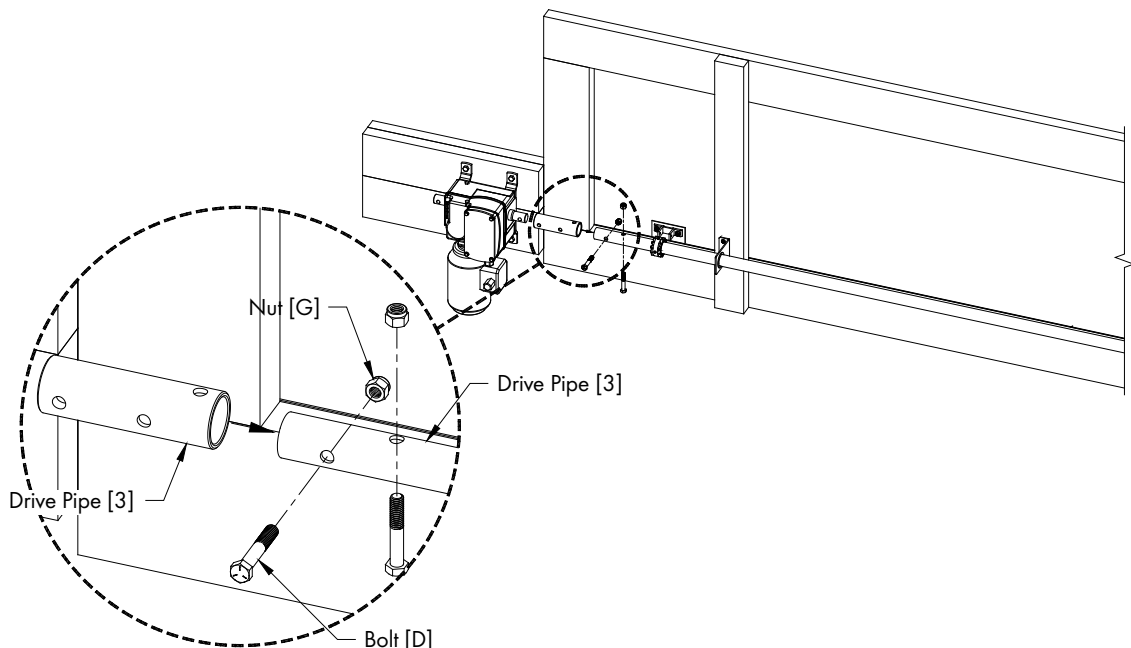

Figure 35
Slide the Straight Coupling [17] over the end of the pipe near the Actuator and secure in place using (2) Bolts [D] and Nuts [G]. See Figure 35.